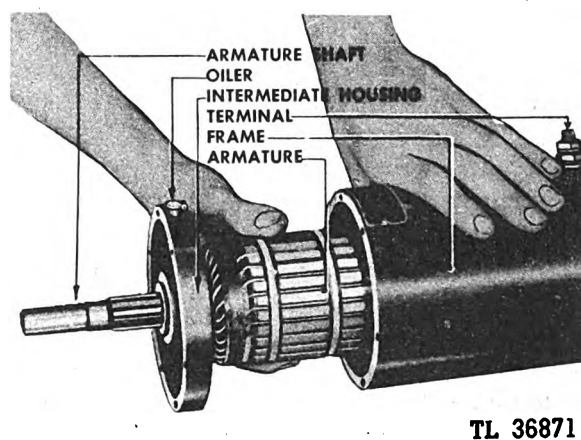

Fig. 219. Removing Armature from Field Frame
(8) Remove the armature from the field frame. (See Figure 219.)